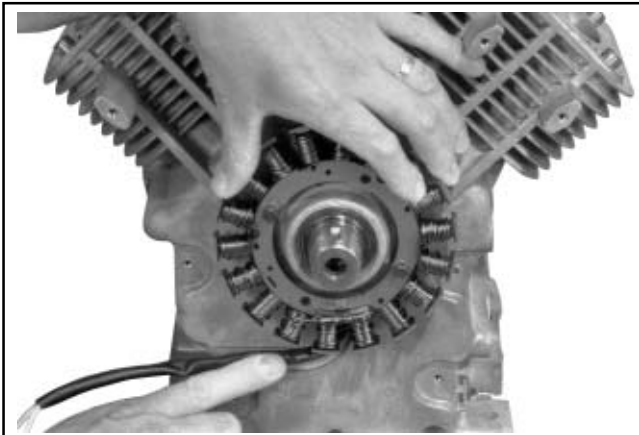

Figure 11-24. Route Stator Leads in Groove.
4. Route the stator leads in the crankcase channel, then install the backing plates and the stator wire bracket (if used). Secure using the four hex. flange screws. See Figures 11-24 and 11-25. Torque the screws to **7.3 N·m (65 in. lb.)**.